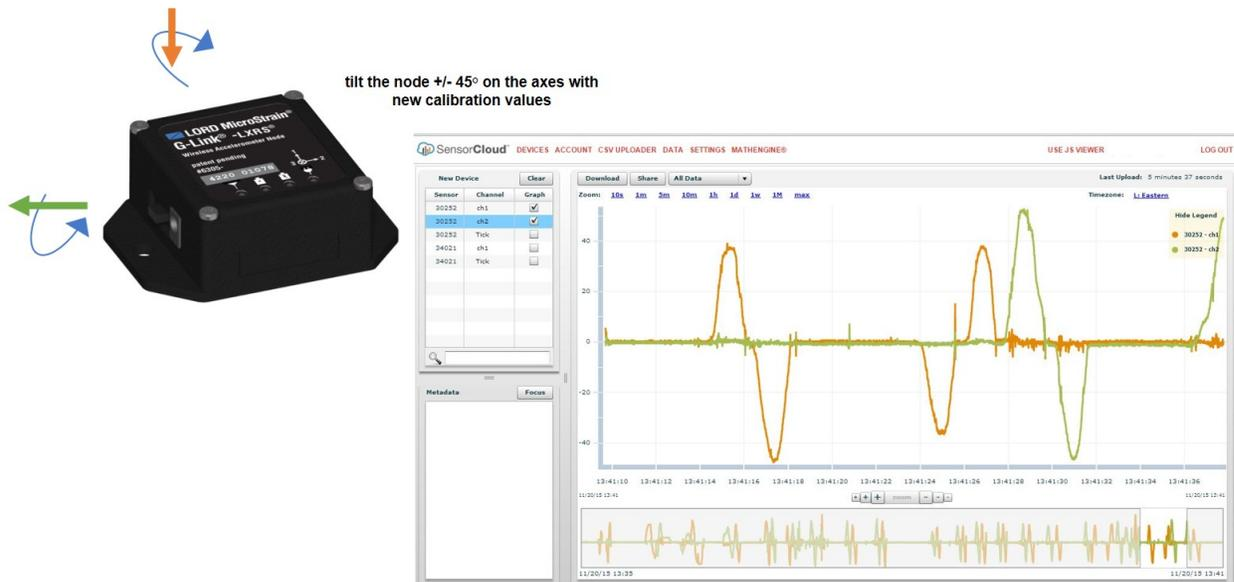

Figure 5 - Measuring Inclination with SensorCloud[™]
- Measure inclination:** Start node sampling in Node Commander[®], and view the acquired data. Data acquisition can be monitored locally in Node Commander or remotely using the SensorCloud[™] platform on an Ethernet-enabled network (*Figure 5 - Measuring Inclination with SensorCloud[™]*). Tilt the node on each on the axes with the new calibration values, and verify the outputs.